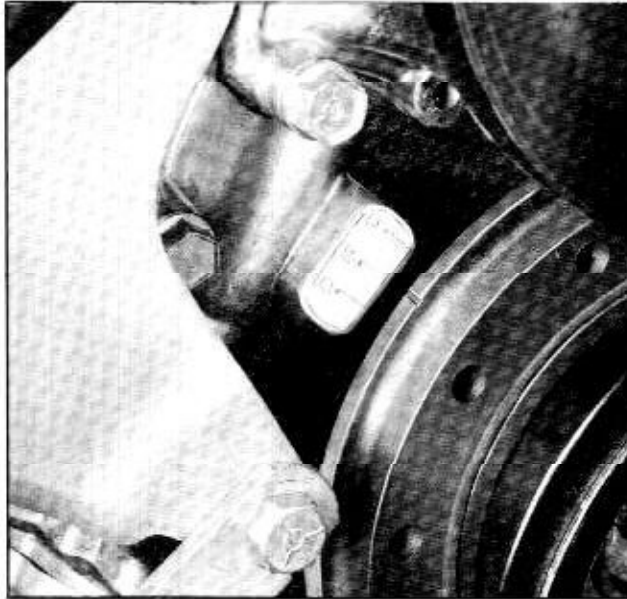

Fig. 9-3 Ignition Timing
1. The timing marks are located on the engine front cover, 0°, 5° and 10°. (Fig. 9-3)